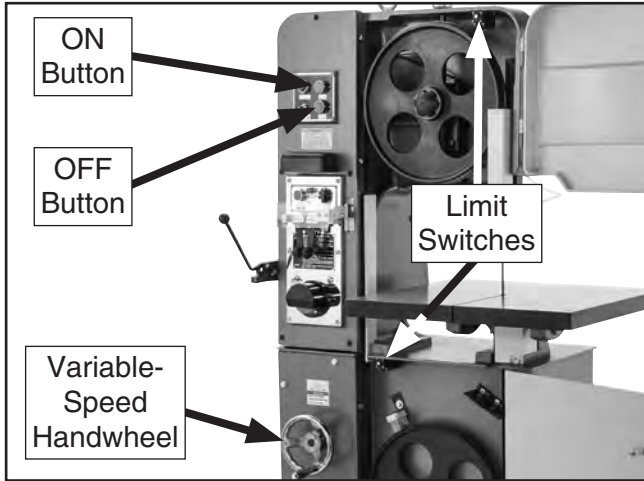

Figure 33. Location of door limit switches (doors shown fully open for clarity).
4. Push the ON button (see **Figure 33**). The green motor light will illuminate and the motor will start.
6. Adjust the blade speed through the full range of operation using the variable speed handwheel (see **Figure 33**). The speed should change as you make the adjustments.
7. Press the OFF button (see **Figure 33**), the green motor light will go out, and the bandsaw will stop.
— If the bandsaw does not start, the upper and lower wheel door limit switches (see **Figure 33**) are working correctly; continue to the next step.